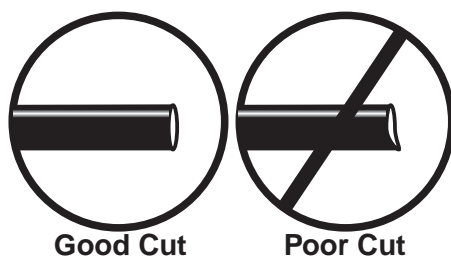

fig. 28
WHEN CUTTING OR TRIMMING THE AIR LINE, USE A HOSE CUTTER, A RAZOR BLADE, OR A SHARP KNIFE. A CLEAN, SQUARE CUT WILL ENSURE AGAINST LEAKS. DO NOT USE WIRE CUTTERS OR SCISSORS TO CUT THE AIR LINE. THESE TOOLS MAY FLATTEN OR CRIMP THE AIR LINE CAUSING IT TO LEAK AROUND THE O-RING SEAL INSIDE THE ELBOW FITTING (FIG. 28).
- a. Check the air line connection by deflating the spring and removing the line by pulling the collar against the fitting and pulling firmly on the air line. Trim 1" off the end of the air line. Be sure the cut is clean and square (see Fig. 28). Reinsert the air line into the push-to-connect fitting.